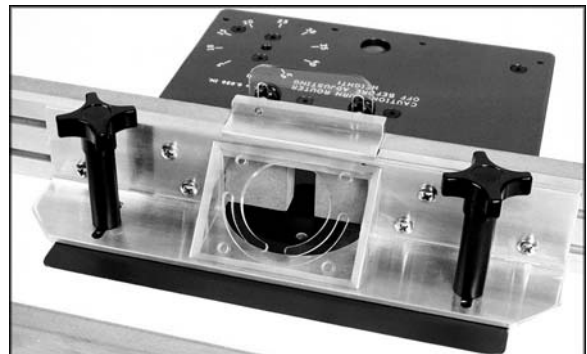

Figure 13
7. Mount the assembled fence to the main plate of the XACTA LIFT with one fence knob in each of the threaded holes in the top corners of the plate (Fig. 13).